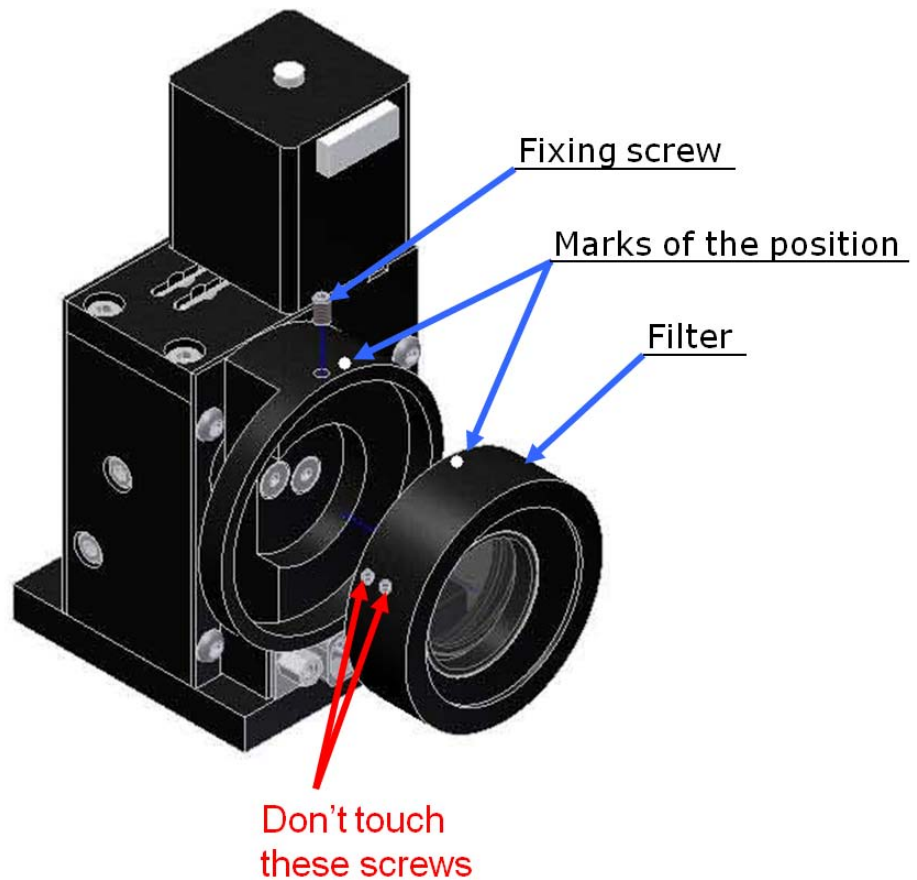

Fig. 11 Birefringent filter mount
7. *If your laser is equipped with an optional birefringent filter then it is necessary to take it out of the holder (**Fig. 11**). Please be extremely careful not to confuse the fixation screw with the screws that fix the plates of the filter together. If the orientation of the plates changes then the filter will be inoperable. Please refer to **Fig. 11**.*
51. Insert the filter back into the holder as shown in **Fig. 11**